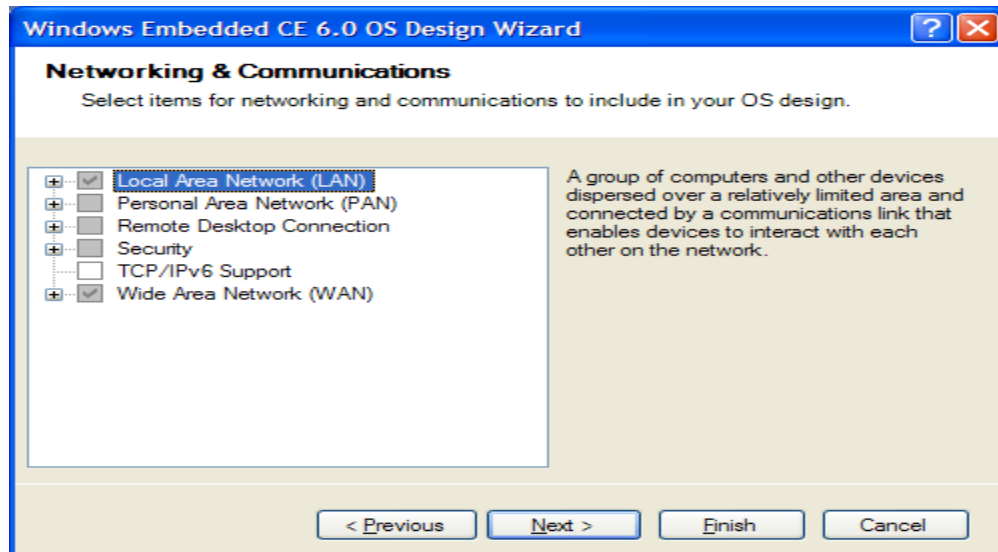

Figure 44. Windows Embedded CE 6.0 Design Wizard
7. In the networking & communications step, select Local Area Network, and Wide Area Network as shown in figure 44. The OS design wizard will finish after this step.